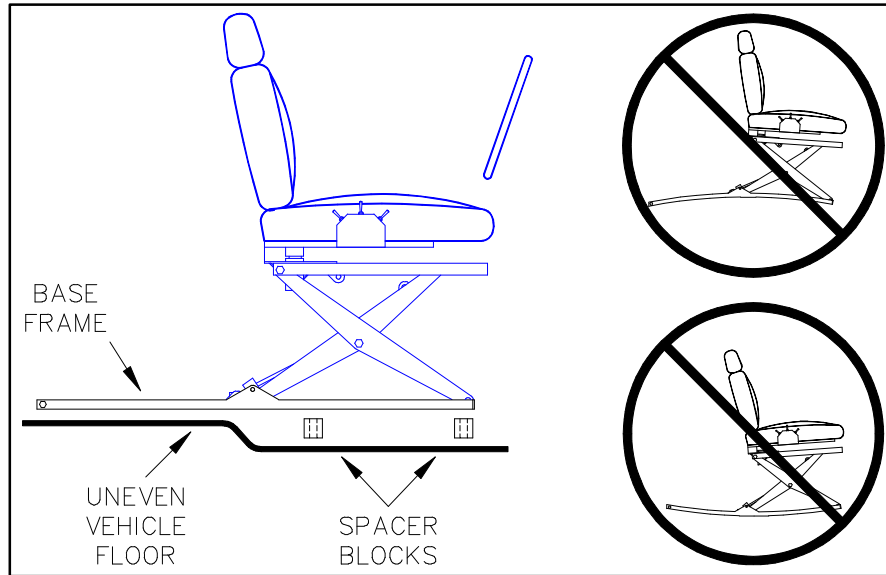

FIGURE 2-7: VEHICLE FLOOR PROFILE
- p. Refer to **Figure 2-7**. Determine if spacer blocks are needed between Base Frame and vehicle floor to ensure Base Frame will not bend or stress when mounting screws are installed and tightened. Fabricate spacer blocks, if required, and position between Base Frame and floor.